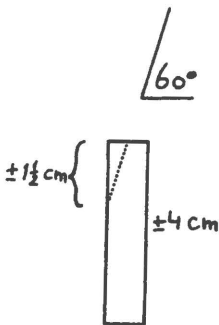

Fig. 9.
1. Take a lath of 157.5 cm in length and about 4 cm width, and plane it sloping over about 1-1.5 cm as shown in figure 9.